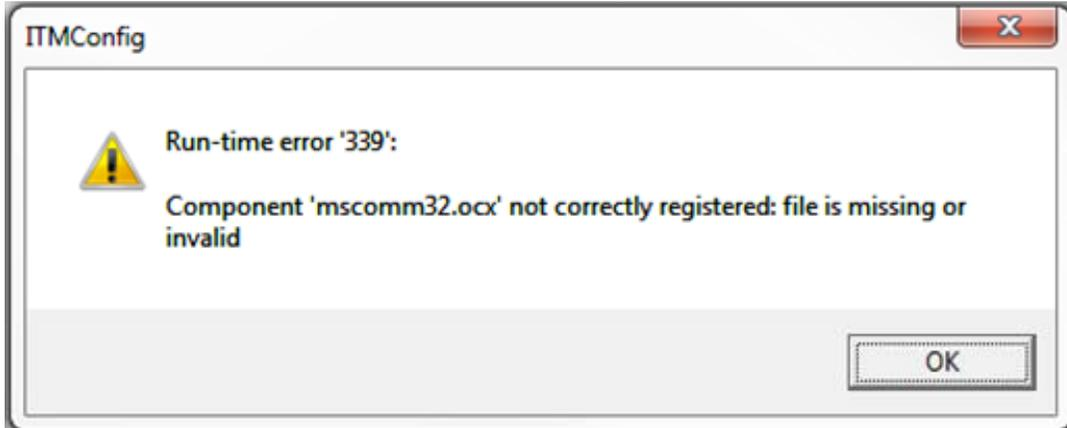

Figure 19 Windows 7 Error
- Now click on the launch icon . By launching the software application Windows, it will prompt the user with a Run-Time error, as seen in figure 19, this is expected, click OK.